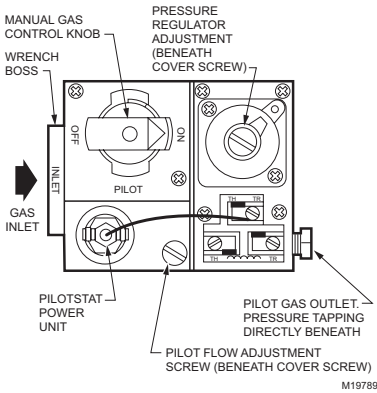

Fig. 1. Top view of standard capacity combination gas control.
2. Remove regulator cap screw and pressure regulator adjusting screw. See Fig. 1.
Remove pilot adjustment cover screw (see Fig. 1).
- Remove outlet pressure tap plug from gas control and connect pressure gauge. See Fig. 1.